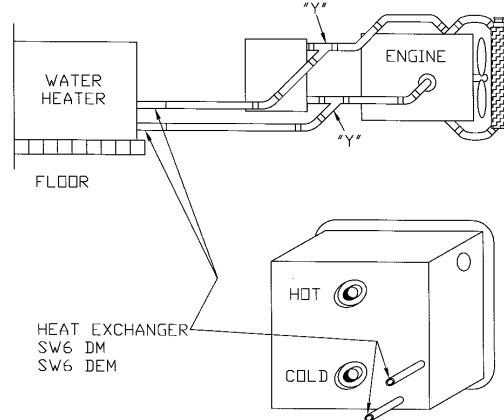

Figure 10
- A.** Place copper "Y"s in heater as shown in Figure 10.